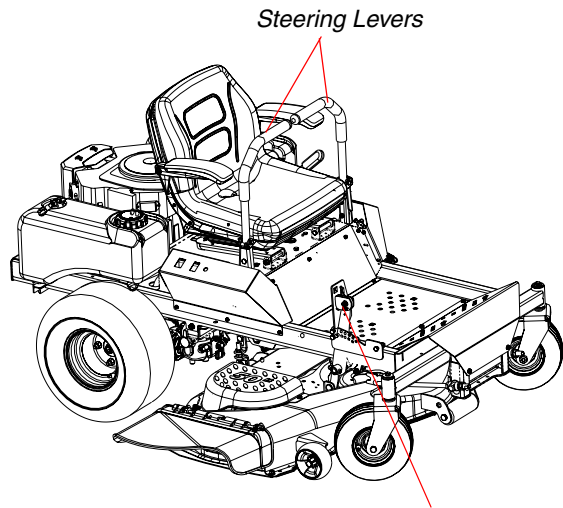

Figure. 3 *Deck Lift Pedal*
3. **Left and Right Steering Levers:** (See Figure 3.) These hinged levers open out to the side in any position to permit the operator to be seated or to leave the mower's seat. The operator, when seated, can pull the levers up to the operating position, a comfortable forearm's length away. These levers control all of the movements of the mower. Pushing both levers forward causes the mower to move forward. Pulling both levers back causes the mower to move backward. Pushing one lever ahead of the other lever causes the traction wheel on the side where the lever is ahead to rotate faster than the other traction wheel, making the mower turn toward the side where the lever is behind. When one lever is pushed forward and the other lever pulled back the same amount, one traction wheel will turn in reverse and the mower will turn within its own length.
6. **Deck Lift Pedal:** (See Figure 3.) Located on the right front corner of the foot platform. Raise the mowing deck to the transport position, by pushing the upper part of the pedal. To lower the mowing deck, push on the upper part of the pedal to release, and lower it to the desired position set by the pin.